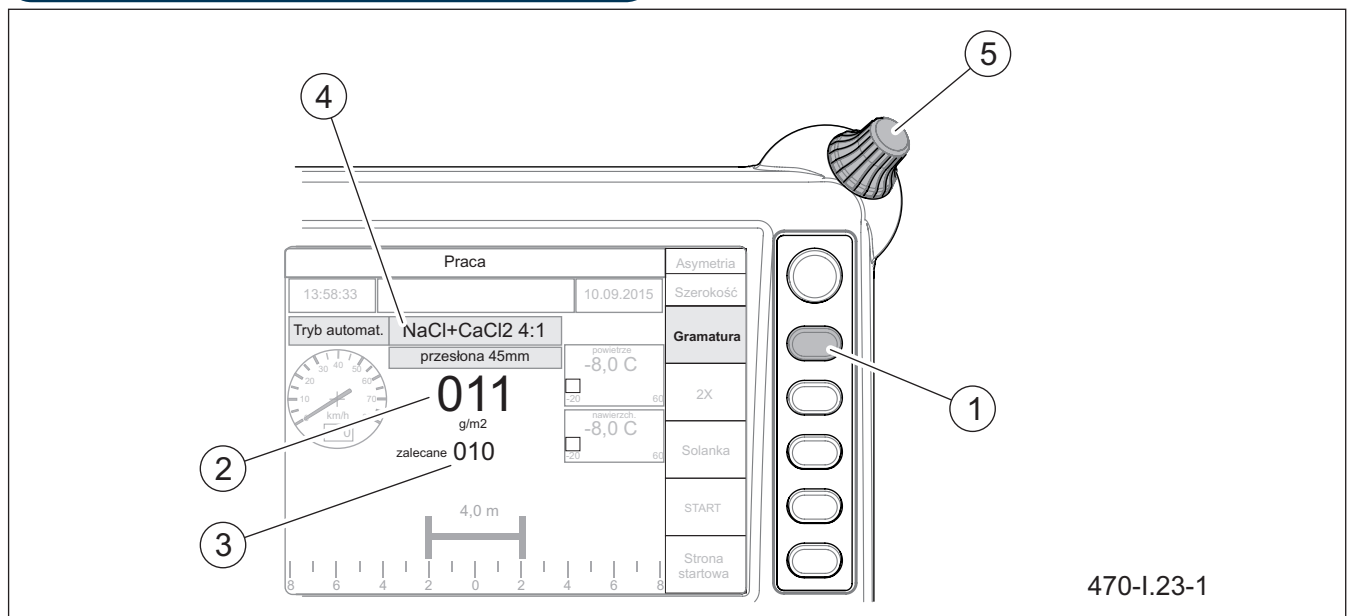

Figure 5.24 Automatic mode adjustment (option)
On control panel "Operation" page (Figure 5.24) the operator can correct the dose for a defined automatic mode after selecting "Spreading density" function by pushing button (1). Correction is made by means of knob (5). Recommended density (3) for a defined mode T1, T2 or T3 is displayed below spreading density set by the operator (2).